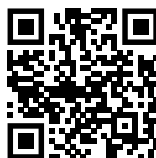

Fig. 154
- Aprire la Liebherr SmartMonitoring Dashboard. (vedere Fig. 154)